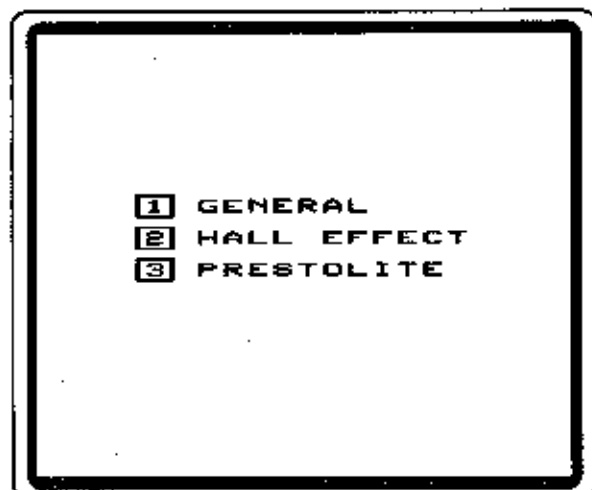

Figure 84
3. Connect test leads (see Module Test Leads Hookup). Select the vehicle system being tested (see Figure 84).